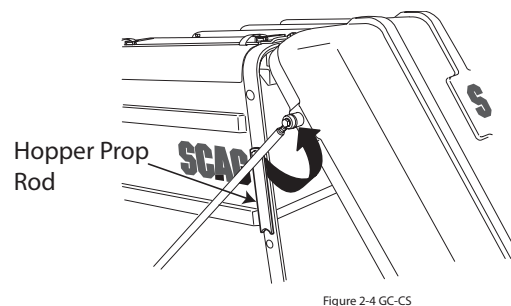

FIGURE 2-4
- When service is needed inside the hopper, disengage the deck drive and allow all moving parts to come to a complete stop. Shut off the engine and apply the parking brake. Rotate the hopper door prop rod upward until it contacts the hopper door. This will prevent the hopper door from moving until the service is complete. See Figure 2-4.